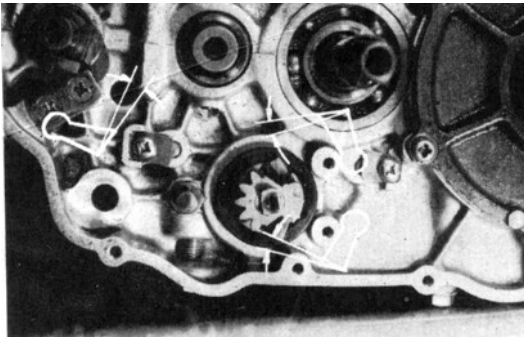

Fig. 37 Fitting kick ratchet & change ratchets
8. Fit kick ratchet and change ratchets as shown in Fig. 37.